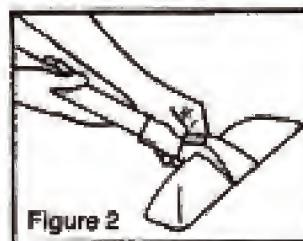

Figure 2
3. Attach the wands to the end of the hose. Attach the floor tool to end of wand. (Fig. 2) Use a slight twisting motion for any accessory connection to insure proper seal.